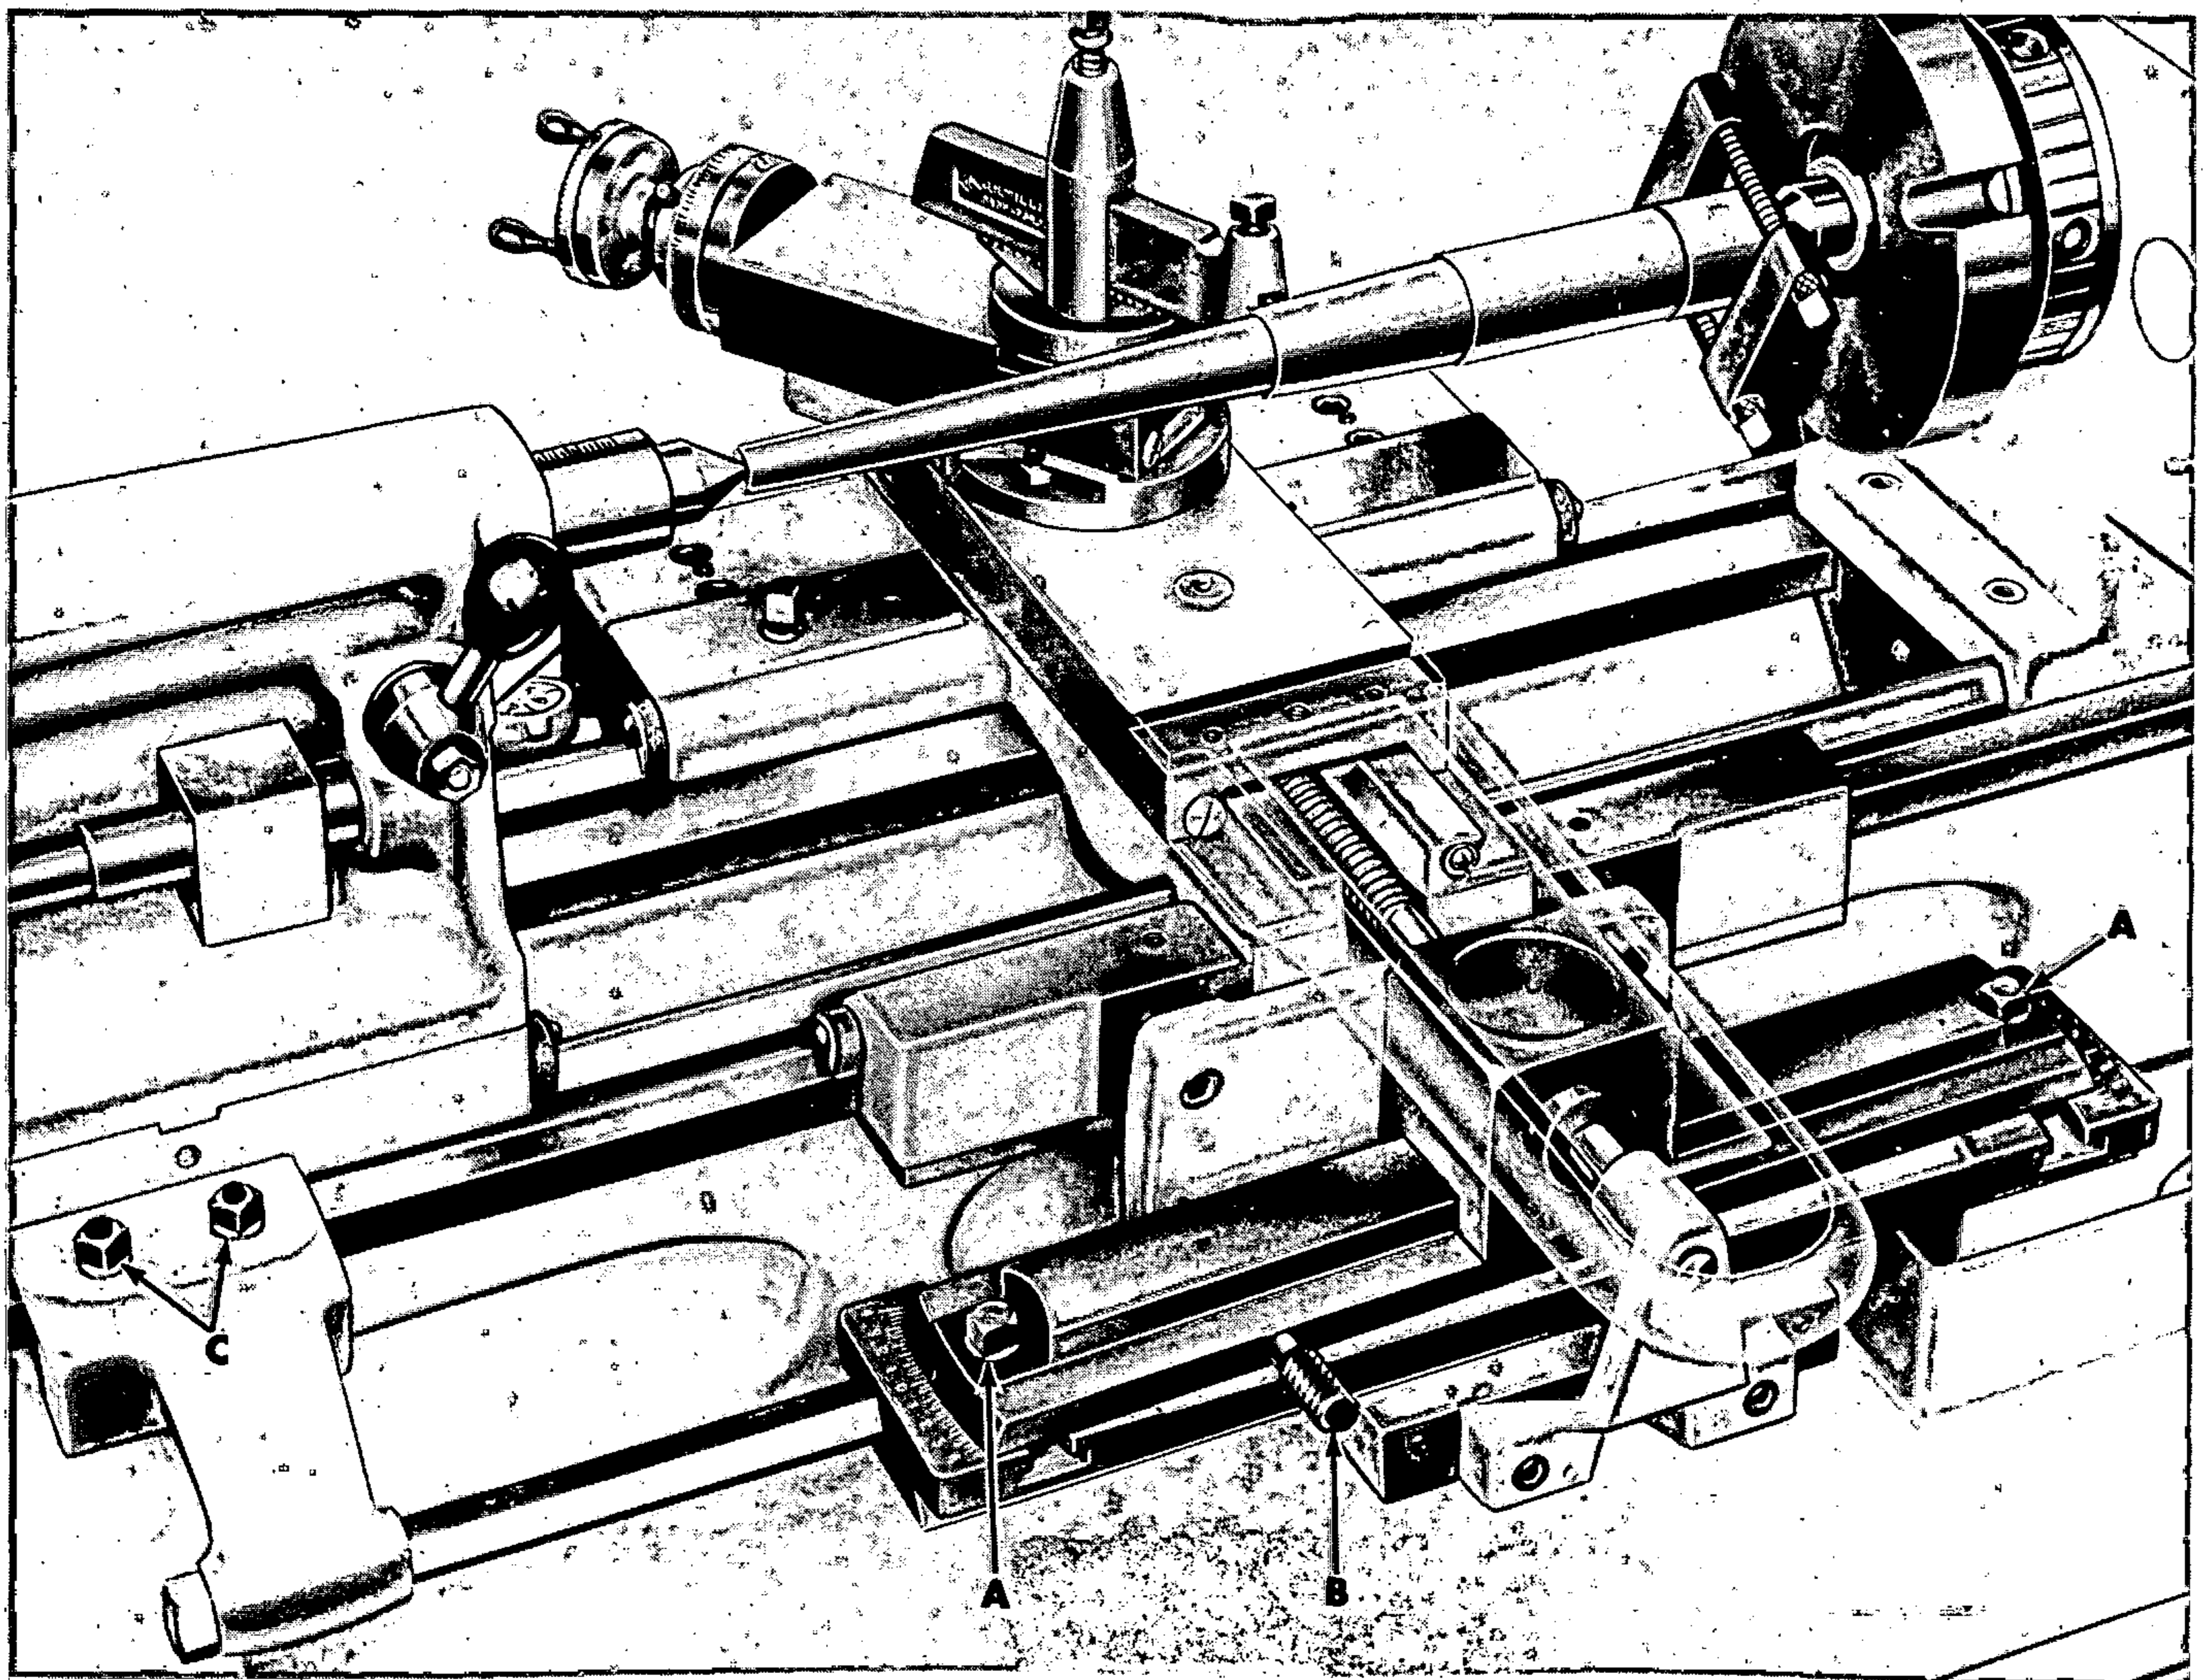

Figure 3
- A. Loosen the two lock screws (A, fig. 3) on each end of taper bar.
- B. Turn taper adjusting screw (B) to taper desired.
- C. Tighten the two taper bar lock screws (A).
- D. Be sure clamp bracket (C) is locked to lathe bed.